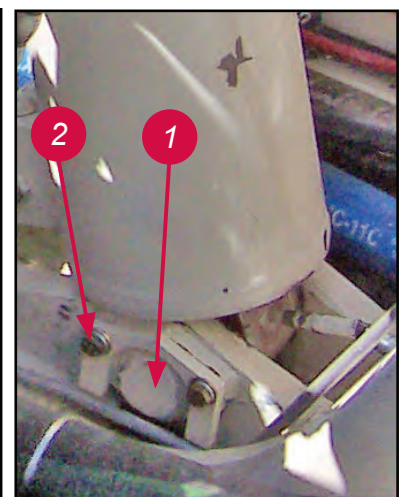

Fig. 3-4a Lower Cylinder Pin
1. With cylinder supported, install lower pivot pin, and retaining bolts (fig. 3-4a).